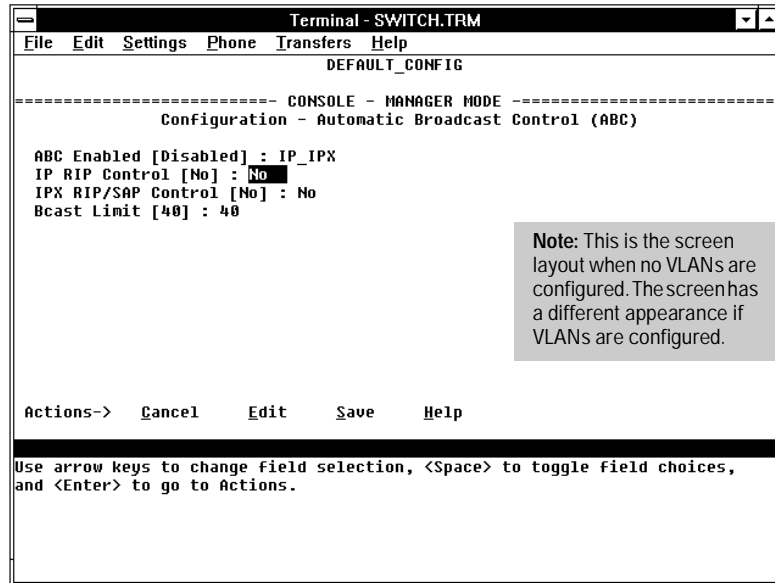

Figure 7-20. ABC Enabled With Default IP\_IPX Option (No VLANs Configured)
- If you enabled ABC for IP\_IPX and pressed an arrow key (figure 7-20, below):